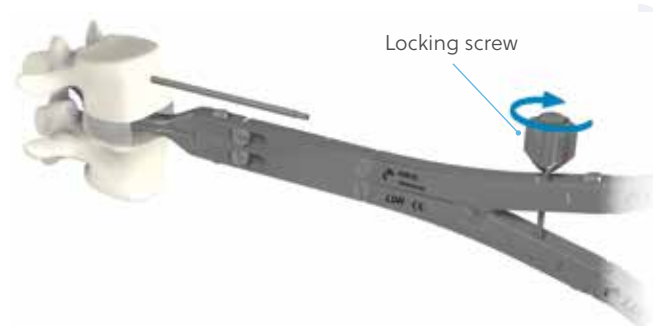

Figure 8
- Distract one side of the intervertebral space with the distraction forceps and maintain its position by tightening the locking screw (**Figure 8**).